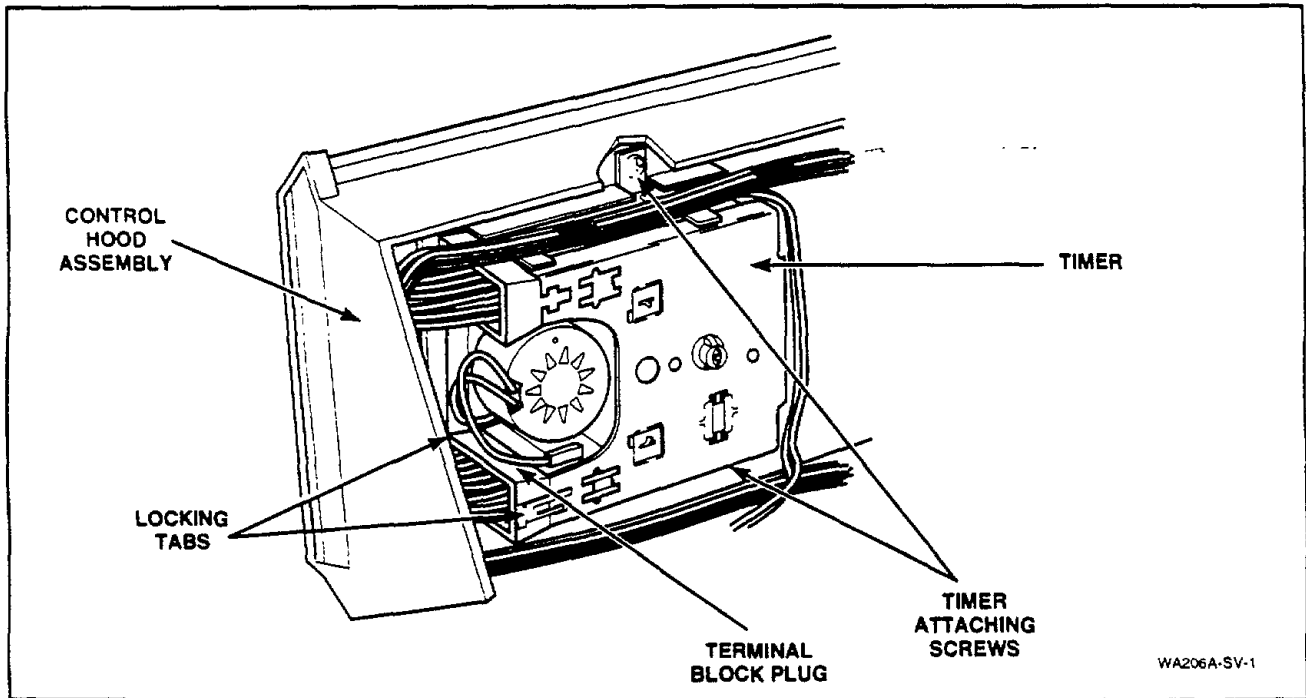

Figure 11
- Remove two screws holding timer to control hood mounting plate, *Figure 11*.
- e. Disengage wire harness terminal block plug(s) from the timer by pressing in on the movable locking tabs (located on each side of the terminal block plug) and pulling away from timer, *Figure 11*.